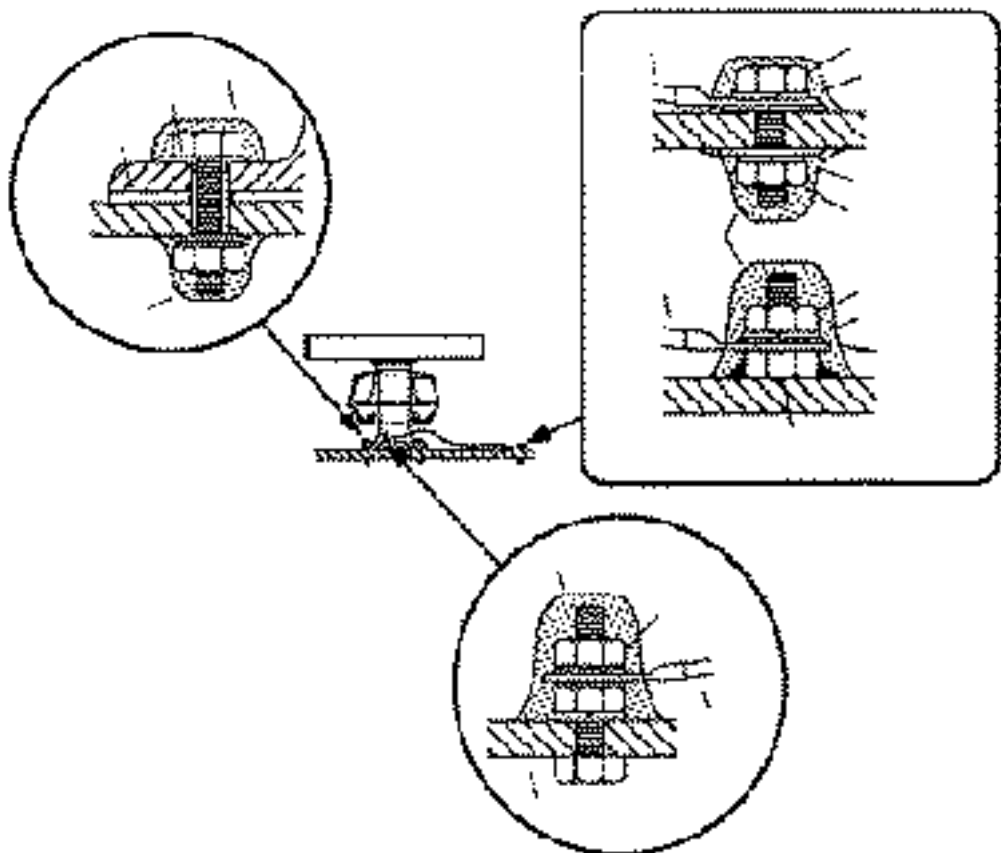

Figure 1-5 How to mount the scanner unit
6. Using hex bolt (M6x25), nut (M6) and flat washer (M6) establish the ground system on the mounting platform as shown in Figure 1-5. The location should be within 370 mm of the ground terminal on the scanner unit. Connect the ground wire (RW-4747, 370 mm, supplied) between the grounding point and ground terminal on the scanner unit. Coat the entire ground system with silicone sealant (supplied).